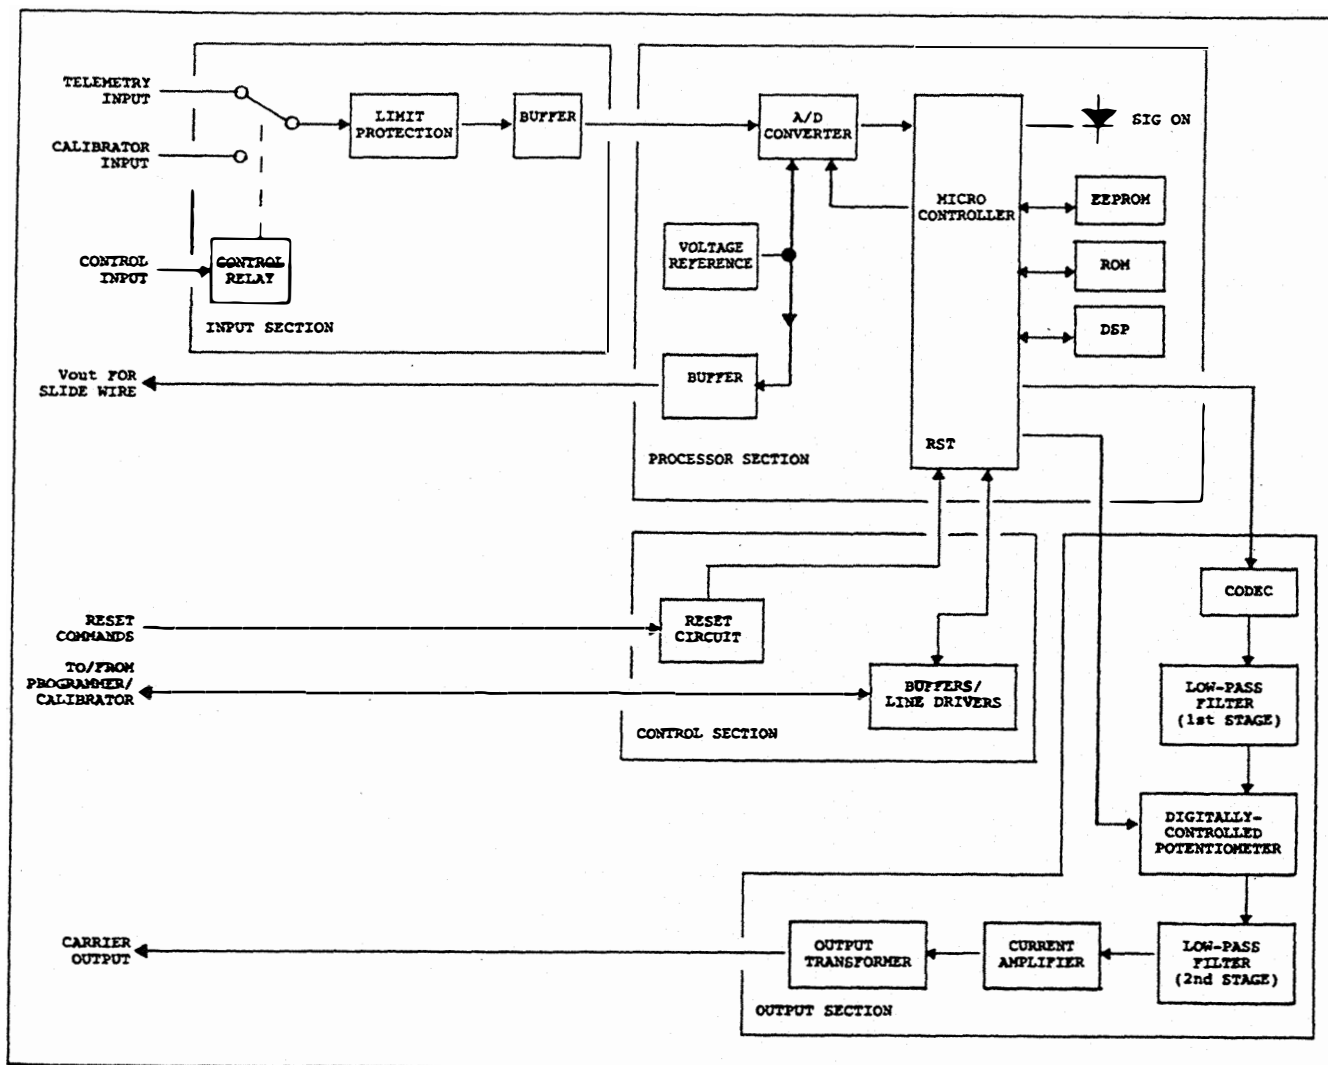

Figure 4. Block diagram, RFL 98 TMX Programmable Telemetry Transmitter
26. Check the settings of jumpers J2 and J3. (Refer to Figure 4 for their location.)
A block diagram of the RFL 98 TMX appears in Figure 4. Figure 5 on page 21 of this Instruction Data sheet is a component locator drawing for the RFL 98 TMX; its schematic appears in Figure 6 on page 19 of this Instruction Data sheet.